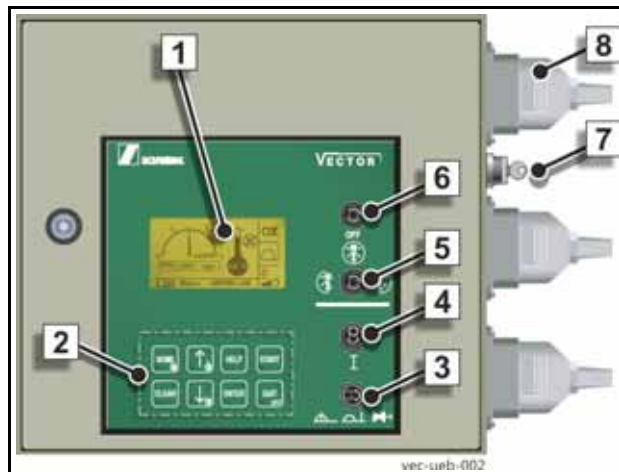

Fig. 136 VECTOR control
Hydraulically powered supports can only be operated in the "Local" position of the selector switch (3) (**Fig. 136**)!
Caption (Fig. 136)